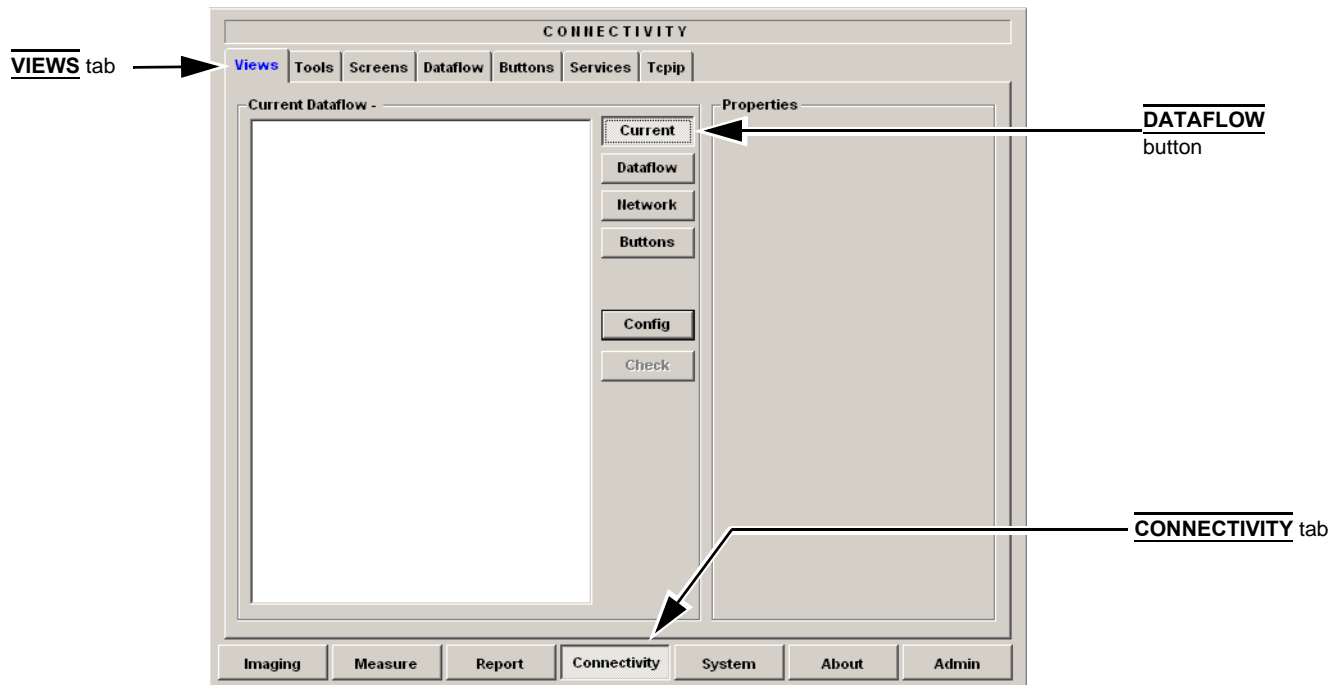

Figure 3-119 Current Dataflow Views screen
- 3.) Select the **VIEWS** tab, located in upper part of window, to display the Current Dataflow Views screen, see Figure 3-119.